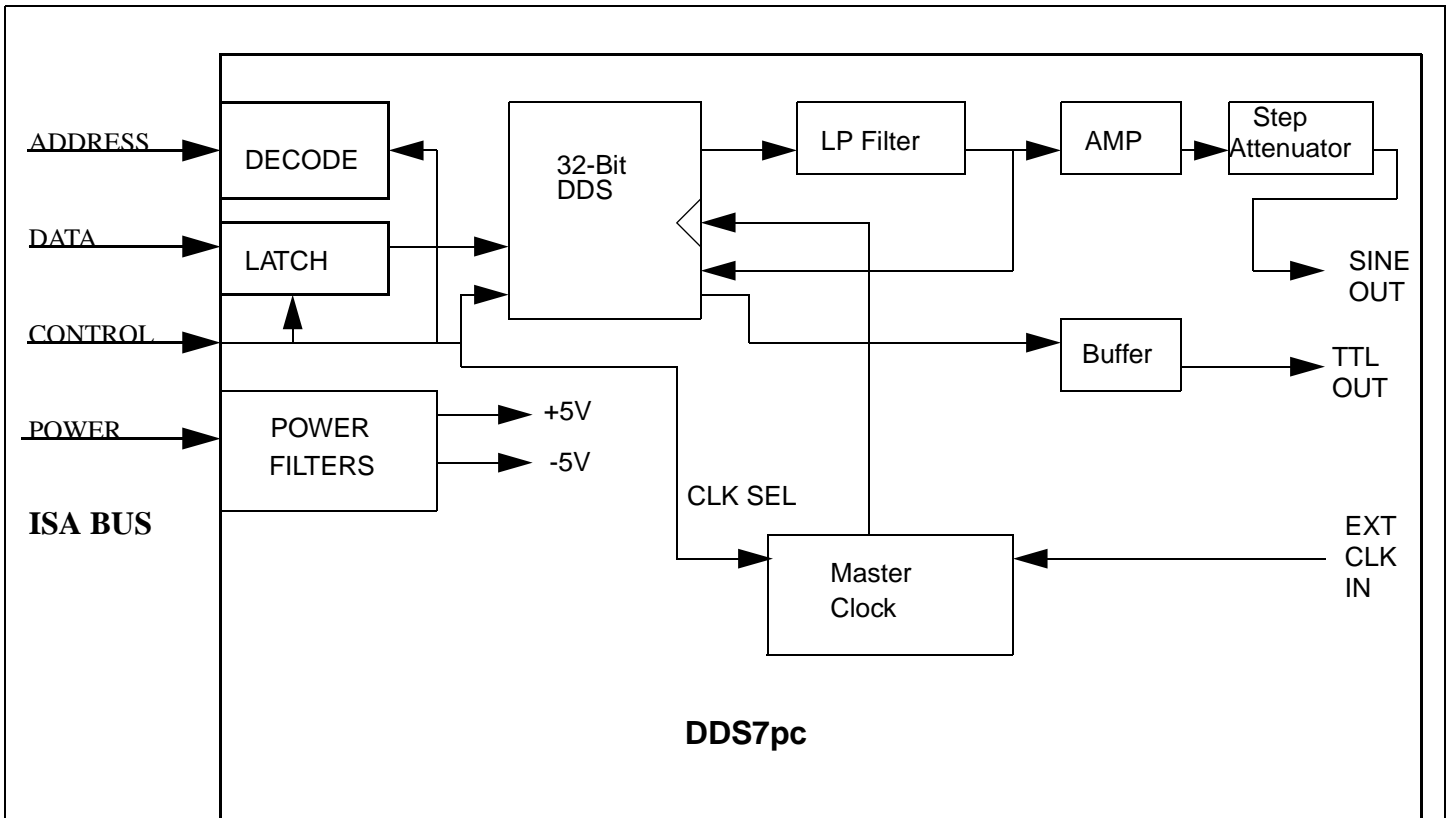

Figure 2
5.1 Please refer to the simplified System Block Diagram in Figure 2 for the following discussion.